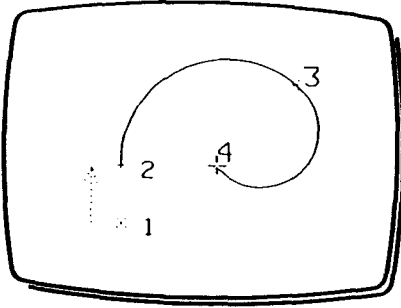

Fig 3
- 3 **Move XY to position the dynamic cursor at (1) in Fig 3.**